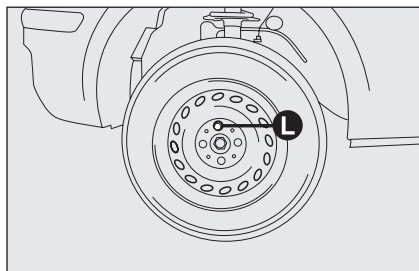

fig. 5
- ☐ for versions with wheel cap, remove the wheel cap after loosening the 3 fastening bolts and finally loosen the fourth bolt **L-fig. 5** and extract the wheel;